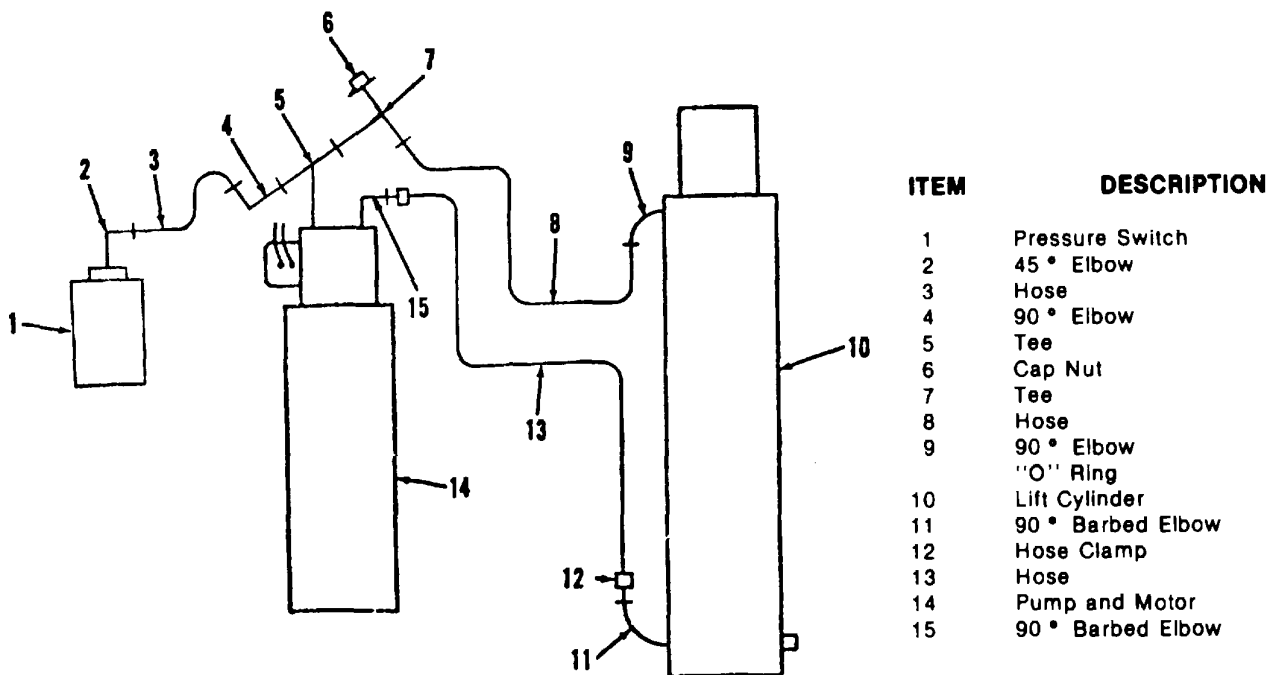

Figure 22 - Hydraulic Diagram
- b. Insert eccentric shaft (22) through frame and cylinder. Place splined shaft lock (4) on shaft and revolve until eccentric seats. Reposition lock to Install hex screw (6) and lockwasher (5).
- c. Install pin (27) through levers and piston rod.
- d. Install lock pin (28), with hex nut (26) and lockwasher (5)
- e. Install hoses at cylinder. Tighten connections. Refer to Figure 22 Hydraulic Diagram.